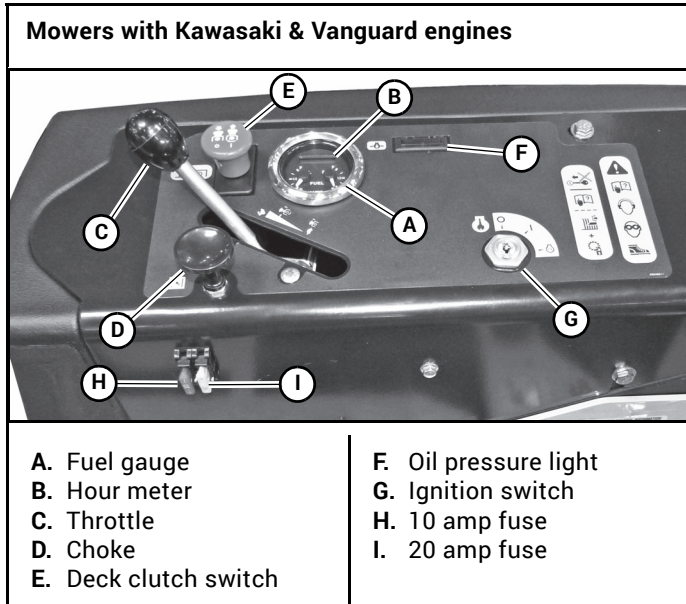
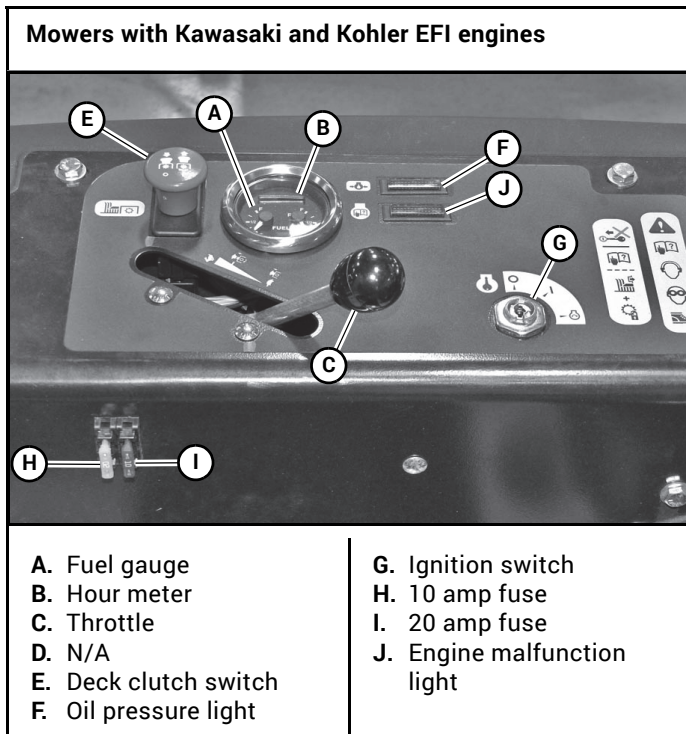
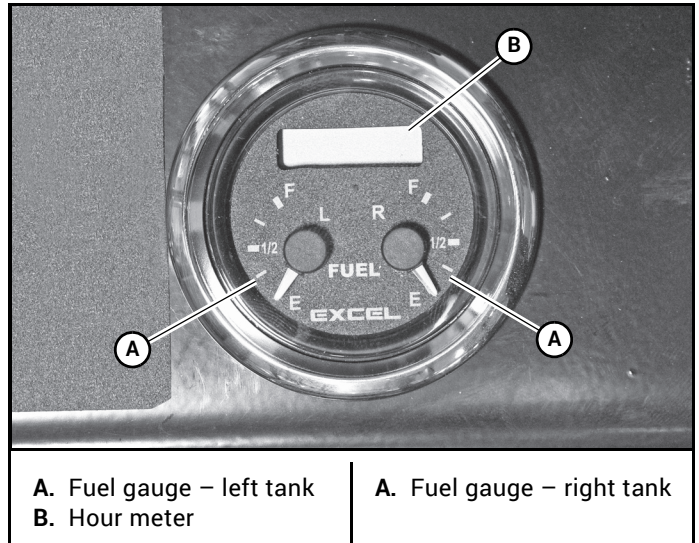

Figure 3-1
Figure 3-2
Figure 3-3
A. Fuel tank gauge (Figure 3-1, Figure 3-2 & Figure 3-3) – this gauge shows the fuel level for each fuel tank. The right gauge indicates the fuel in the right tank and the left gauge indicates the fuel level in the left fuel tank.
B. Electronic hour meter (Figure 3-1, Figure 3-2 & Figure 3-3) – registers 1/10 hour increments up to 9,999.9 total hours. It is connected to the ignition switch. It records the accumulative time while the ignition key is switched to the “RUN” position.
C. Throttle control (Figure 3-1 & Figure 3-2) – a cable is linked to the engine throttle for controlling engine speed. Move the lever forward to increase engine rpm, move the lever rearward to decrease engine rpm.
D. Choke control (Figure 3-1) – a cable is linked to manually operate the engine choke. When the lever is in the down position, the choke is in the “OFF” (run) position. When the knob is pulled up, the choke is in the “ON” (start) position. Do not operate the machine in the “ON” (start) position.
E. Deck clutch switch (Figure 3-1 & Figure 3-2) – this switch engages the deck. Pull the switch up to engage and push switch down to disengage the clutch. For additional clutch information refer to the *Mower Deck Operation* section of this manual.
F. Oil pressure light (Figure 3-1 & Figure 3-2) – this light comes on when the ignition switch is placed in the “RUN” position and stays lit until the engine is running and a safe oil pressure is developed. If the light comes on during operation, shut the engine off immediately and locate and correct the problem.
G. Ignition switch (Figure 3-1 & Figure 3-2) – a three position switch: “OFF”, “RUN”, and “START”. With key inserted, rotate it clockwise to the “START” position; release the key when the engine starts, and the switch will automatically return to the “RUN” position.
H. 10 amp fuse (Figure 3-1 & Figure 3-2) – Ignition system & Safety system - 10 amp, blade-type.
- I. **20 amp fuse (Figure 3-1 & Figure 3-2)** – Controller - 20 amp, blade-type.
- J. **Engine malfunction light (Figure 3-2)** – this light comes on when there has been an engine malfunction on mowers with electronic fuel injected engines. Refer to the engine owner’s manual for more details.